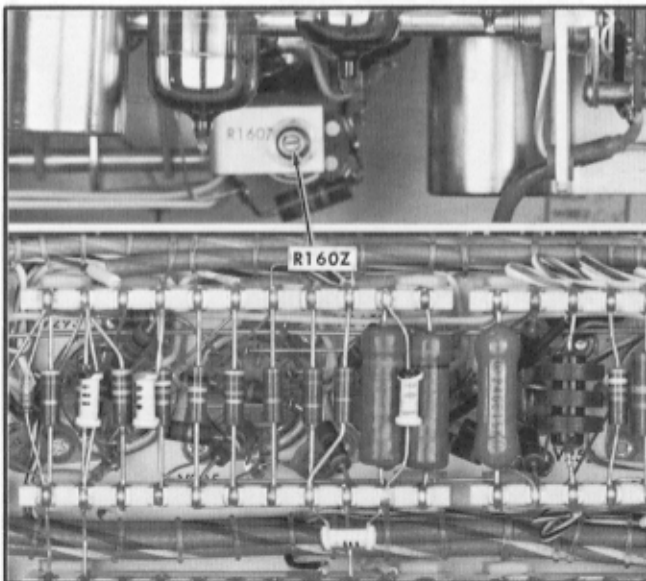
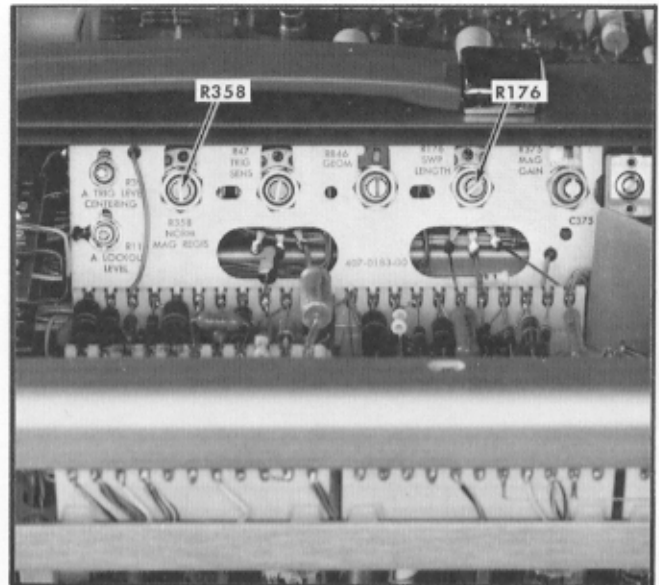
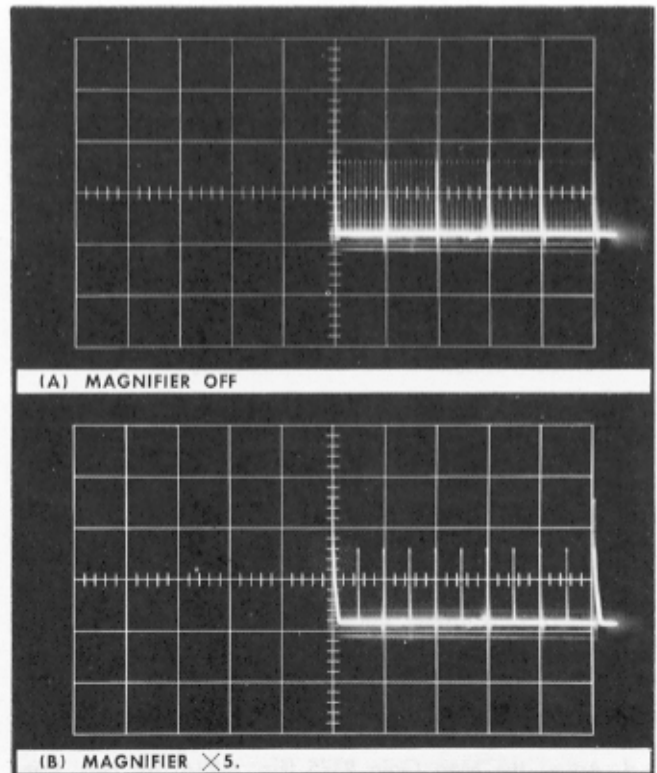

Fig. 6-26. Location of R160Z timing potentiometer.
Fig. 6-27. Location of Sweep Length and Norm Mag Regis adjustments.
Fig. 6-28. Correct adjustment of Norm Mag Regis R358.
d. Adjust timing potentiometer R160Z for 1 ms marker/cm. See Fig. 6-26.
30. Adjust A Sweep Length and Check Variable Control Range ①
b. Adjust the A Swp Length R176 (Fig. 6-27) for a sweep length of 10.5 cm.
31. Adjust Sweep Magnifier Registration ①
c. Turn the MAGNIFIER switch to OFF and adjust the Norm Mag Regis R358 (Fig. 6-27) to position the zero time marker directly behind the center graticule line (see Fig. 6-28).